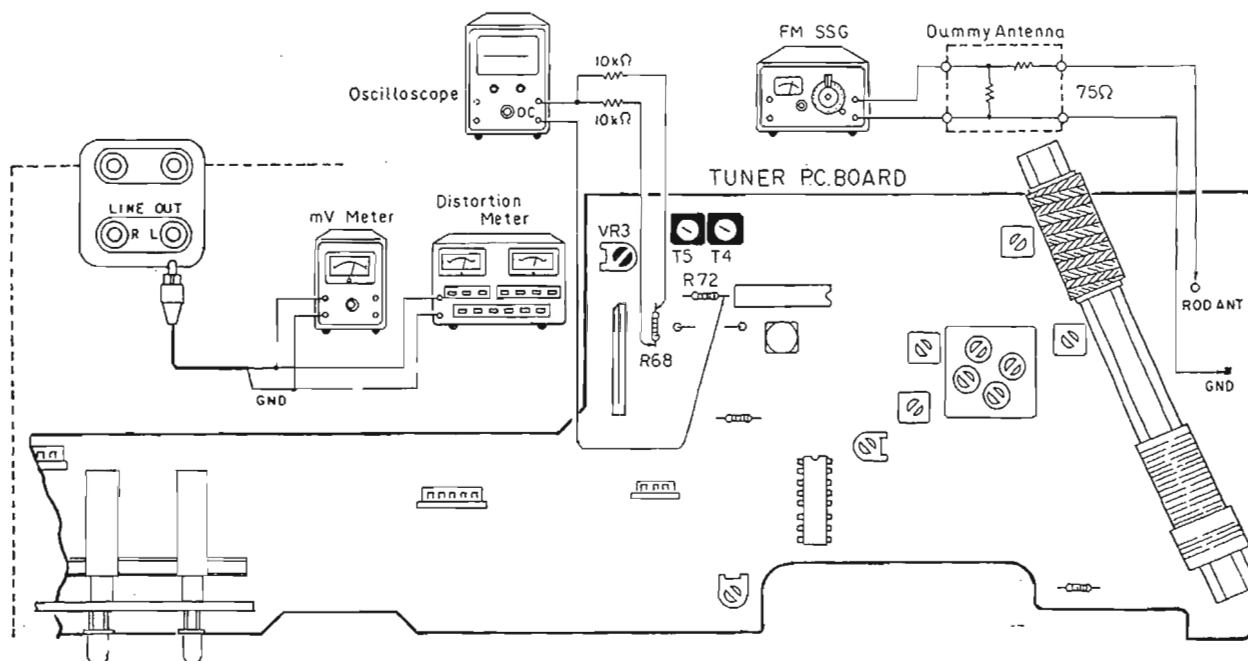

Fig. 7
• Connection Diagram (Shown in Fig. 7)